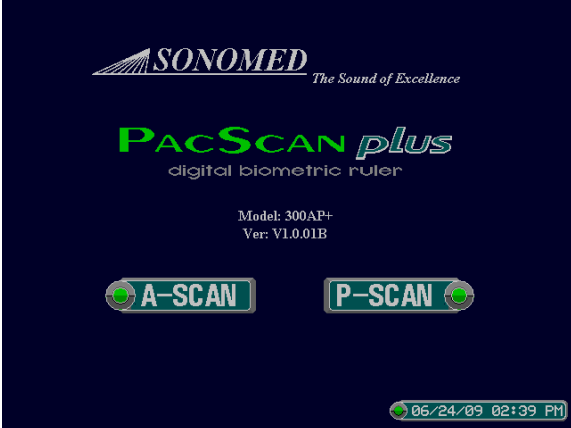

Figure 4-1 Main Screen Display
1. Select the [PACHYMETER] button on the Main Screen (See Figure 4-1).